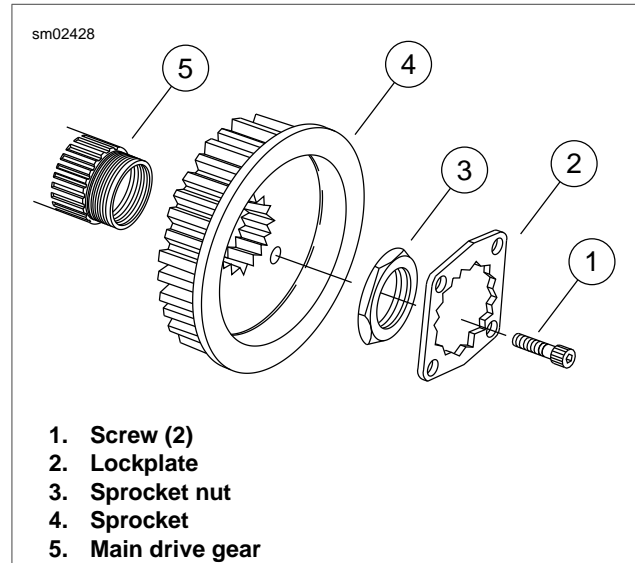

Figure 6-39. Transmission Sprocket
- a. See Figure 6-39. Remove two screws (1) and lockplate (2).
2. See Figure 6-39. Install the sprocket nut. The following procedure is based on whether a new or used nut is being used.
12. See Figure 6-39. Install screws (1) through two of the four holes in lockplate (2), then into two corresponding tapped holes in sprocket (4).